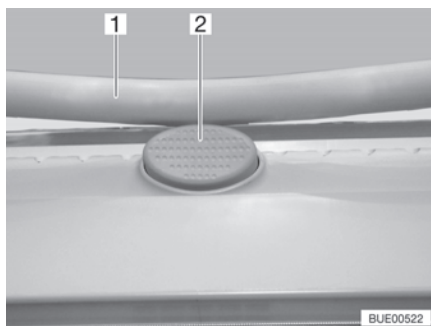

Fig. 17 Safety knob (Heki skylight)
- Press the safety knob (Fig. 17,2) and pull the bar (Fig. 17,1) down with both hands.
- Push the bar upwards with both hands until it is above the safety knob (Fig. 17,2).